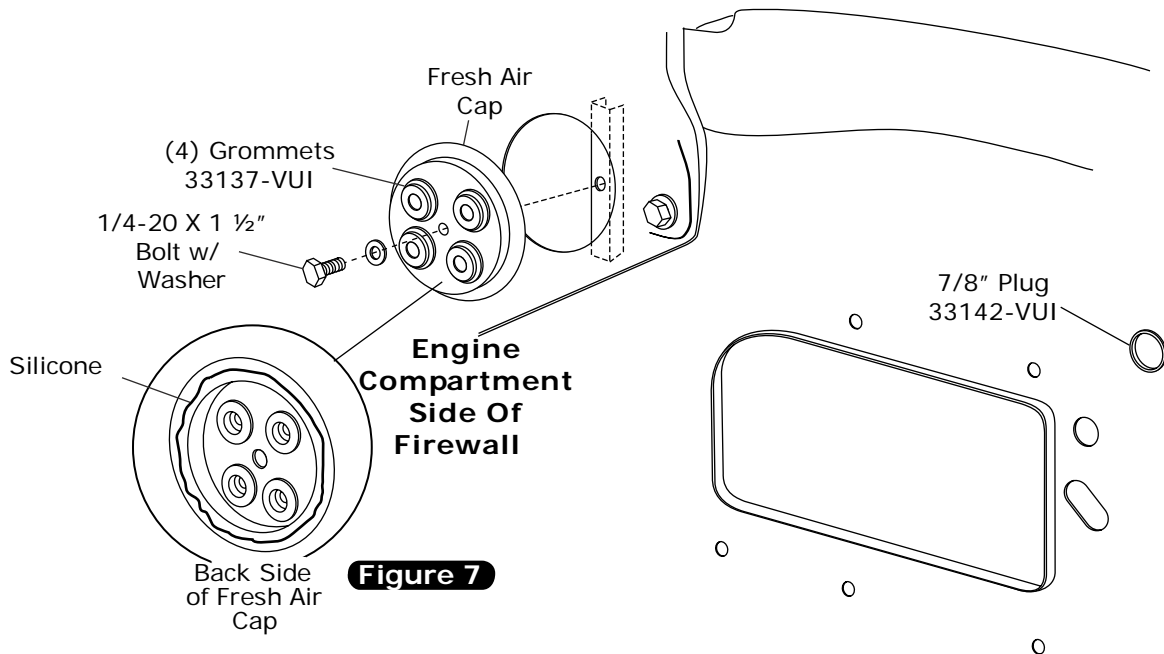

Figure 7
1. Install 7/8" plug in OEM hole on firewall (See Figure 7, below).
2. Install (4) grommets in fresh air cap (See Figure 7, below).
3. Apply a 1/4" bead of silicone around the back side of the fresh air cap as shown in Figure 7, below.
4. Attach fresh air cap to firewall using a 1/4-20 X 1 1/2" bolt and washer (See Figure 7, below). **Note: Fresh air cap installs on engine side of firewall.**